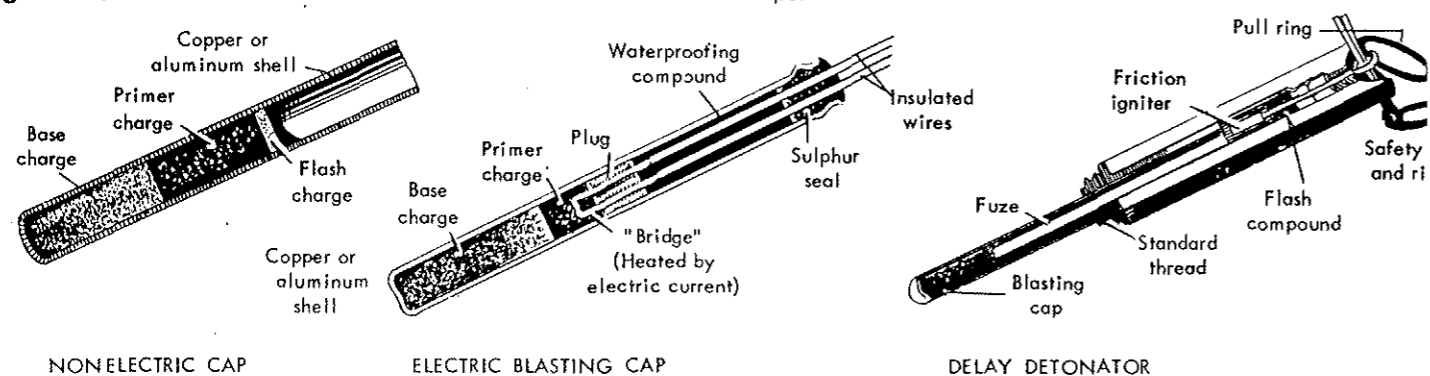

Figure 43.
2. The detonator (fig. 43) is an explosive of such high sensitivity as to be easily set off by action of the fuze. The detonator's function is to set off the booster charge or the main charge of the mine. The detonator may be an integral part of the fuze, an integral part of the mine, or separate from both.
9. What are the shape, size, material, and total weight of the detonator? What are the name, composition, and weight of the explosive in the detonator? Is the detonator an integral part of the mine, a part of the fuze, or separate (fig. 43)?
- Blasting caps and detonators.** Electric or non-electric (fig. 43)? Instantaneous or delay (fig. 43)? What is the time of delay? What explosive does it contain? What explosive can it be used with? What type of cap crimper is provided for crimping non-electric caps?